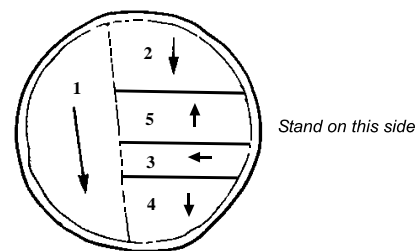

Figure 75 Large logs with top bind – alternative 2
- Grasp the front handle with your thumb underneath to ensure a firm grip. (Fig. 75)